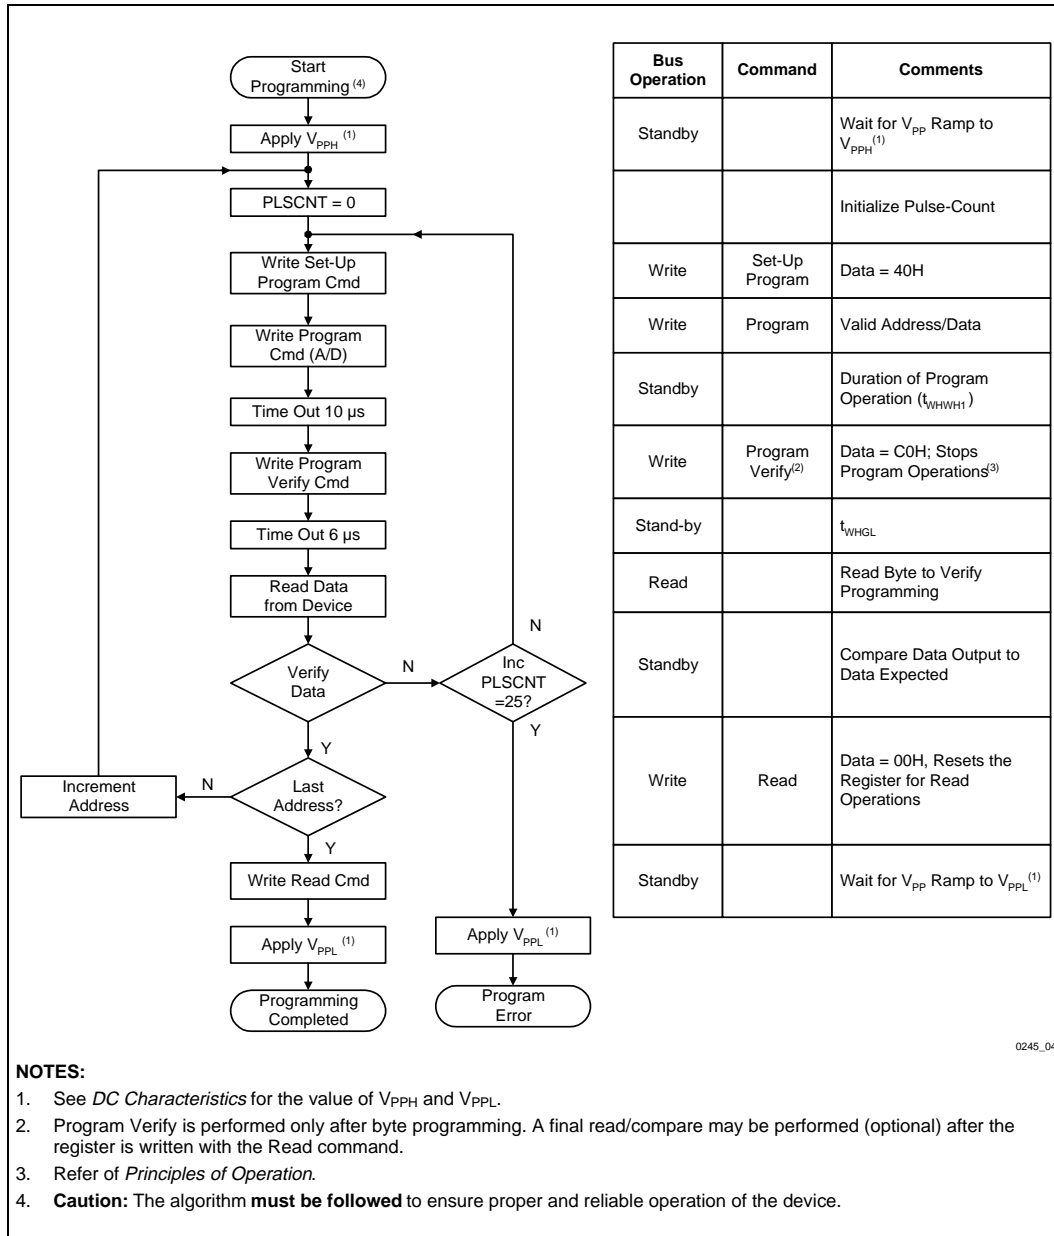

Figure 4. 28F020 Quick-Pulse Programming Algorithm
6. Figure 4 illustrates the *28F020 Quick-Pulse Programming Algorithm* flowchart.
between the programmed byte and true data means that the byte is successfully programmed. Programming then proceeds to the next desired byte location. Figure 4, the *28F020 Quick-Pulse Programming Algorithm* flowchart, illustrates how commands are combined with bus operations to perform byte programming. Refer to *AC Characteristics—Write/Erase/Program Only Operations* and waveforms for specific timing parameters.
The quick-pulse programming algorithm uses programming operations of 10 μ s duration. Each operation is followed by a byte verification to determine when the addressed byte has been successfully programmed. The algorithm allows for up to 25 programming operations per byte, although most bytes verify on the first or second operation. The entire sequence of programming and byte verification is performed with V_{PP} at high voltage. Figure 4 illustrates the *28F020 Quick-Pulse Programming Algorithm* flowchart.